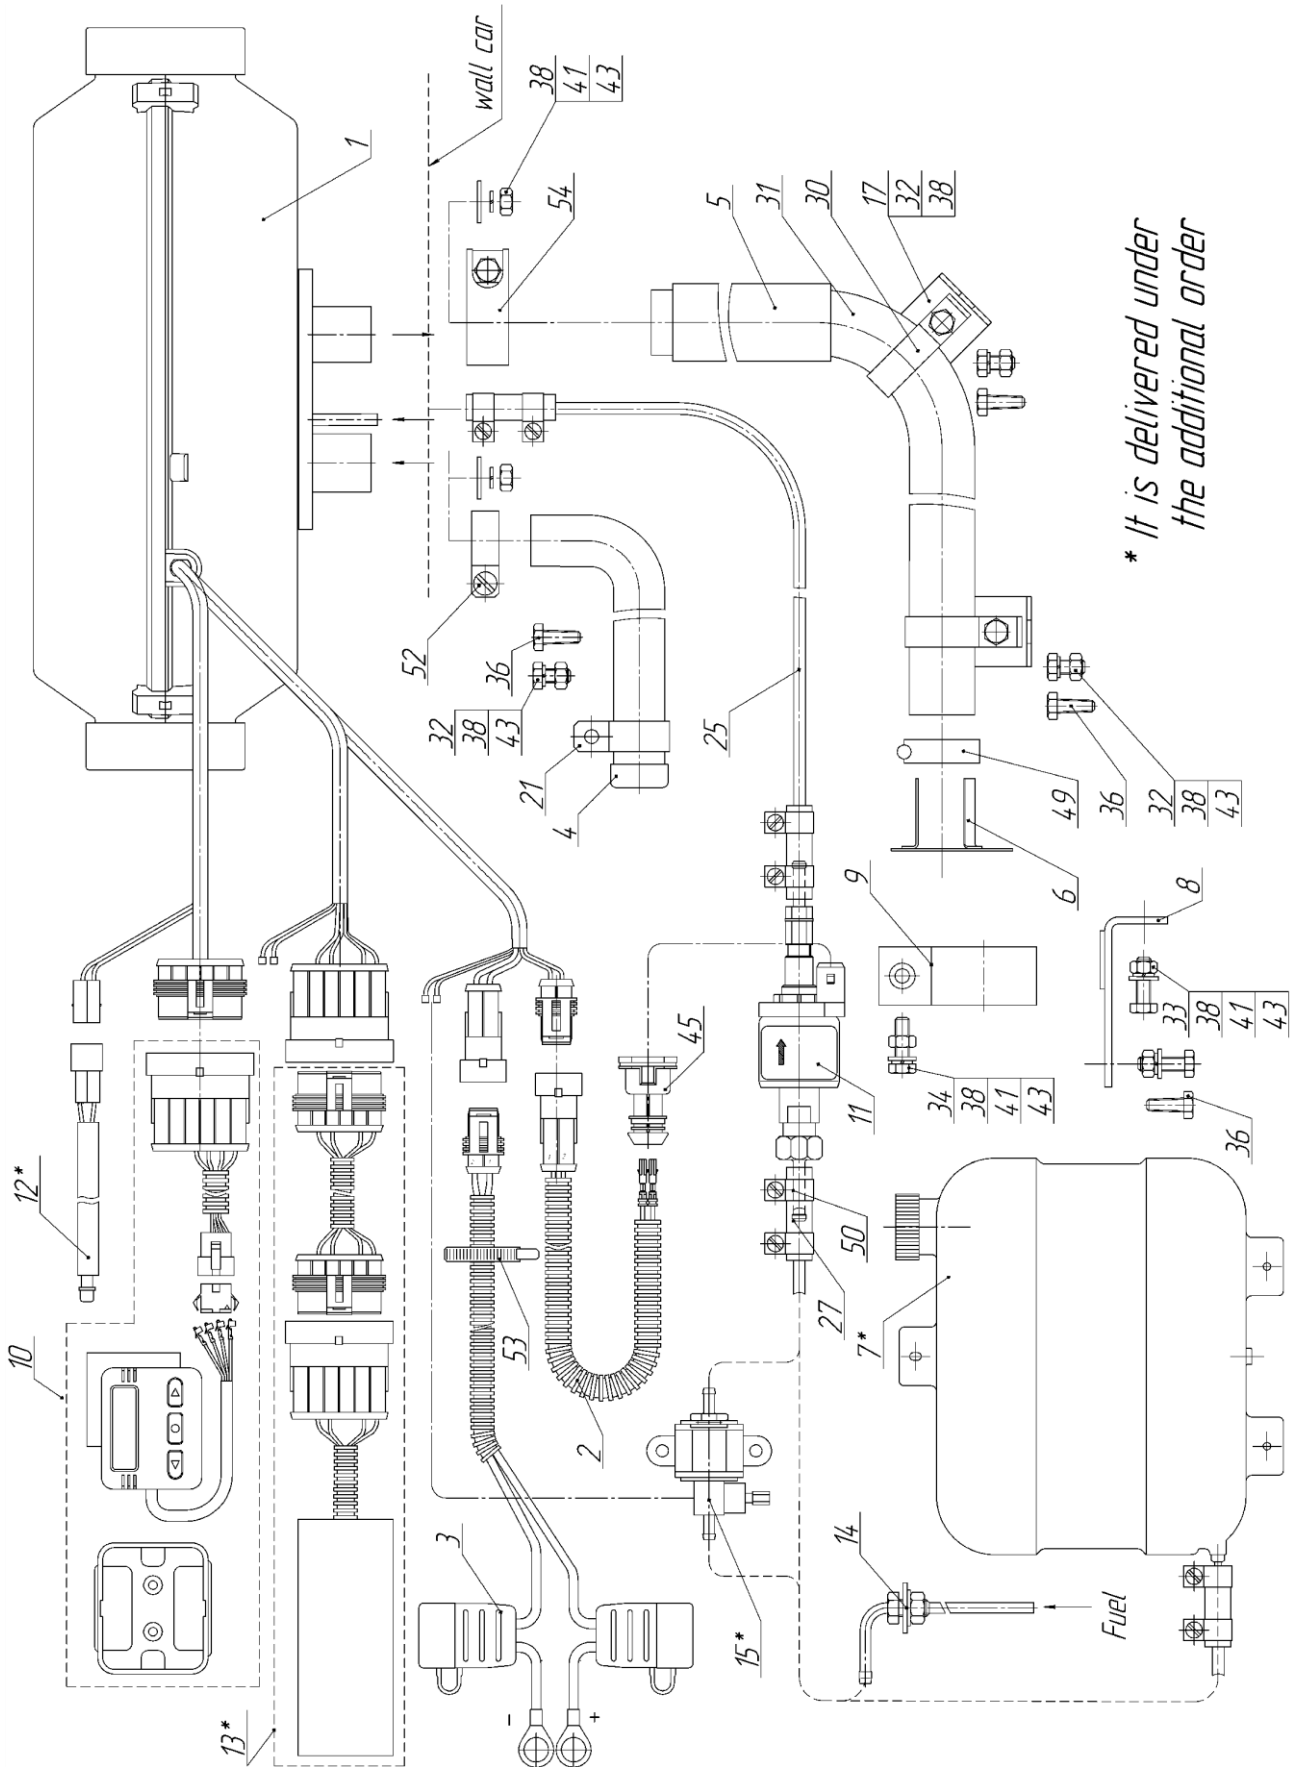

Figure 7.1 – Connection Diagram of Basic Heater Components
Set the modem at any convenient, clean place. Connect the antenna to the modem and bring antenna to the open space (for example, on the windshield) . Connect the modem to the heater (according to fig. 4.1 and fig. 7.1) and test it .
See Figure 7.1 for scope of supply and connection diagram of basic heater components. For list of basic heater components, see Table 7.1.
Screen installation to make according to fig. 7.1.
When installing the exhaust pipe, be mindful of its high operating temperature. Cut the exhaust pipe (a flexible corrugated metal hose) to size. Fix the exhaust pipe in place using clamps and position it at a slight angle following the trajectory of gas flow. To protect some parts of the vehicle (electric wiring and other harness) from high temperatures, there must be heat insulation installed.(pos.3, fig.7.1)
Do not allow exhaust gas to affect the performance of vehicle components. Position the exhaust pipe outlet vent so as to prevent snow entering or choking the pipe and to allow incoming water to run off. At the vent of the exhaust pipe the screen is installed, this necessary for stable operation of the heater while working low idle. If this screen is not installed, install it according fig.7.1